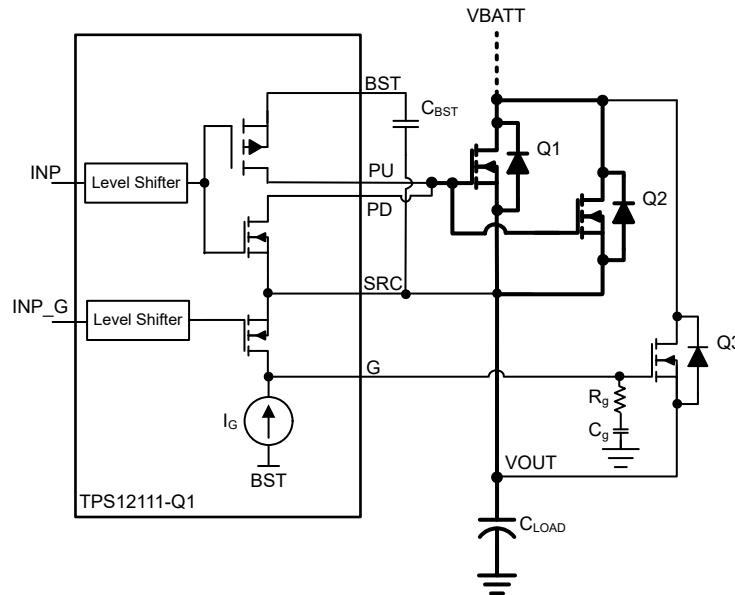

图 8-6. Capacitor Charging Using Gate Slew Rate Control of Precharge FET
The TPS12111-Q1 integrates precharge gate driver (G) with a dedicated control input (INP\_G). This feature can be used to drive a separate FET that can be used to precharge the capacitive load. 图 8-6 shows the precharge FET implementation for capacitive load charging using TPS12111-Q1. An external capacitor  $C_g$  reduces the gate turn-ON slew rate and controls the inrush current.